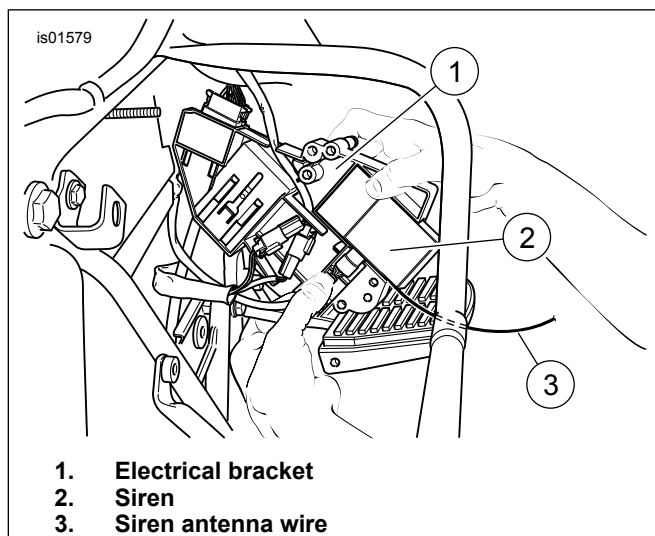

Figure 13. Slide Siren into Place (2002-2007 FL Touring)
5. See Figure 13. Slide the siren (2) into place on the back of the electrical bracket (1) so the sounder disc faces out.